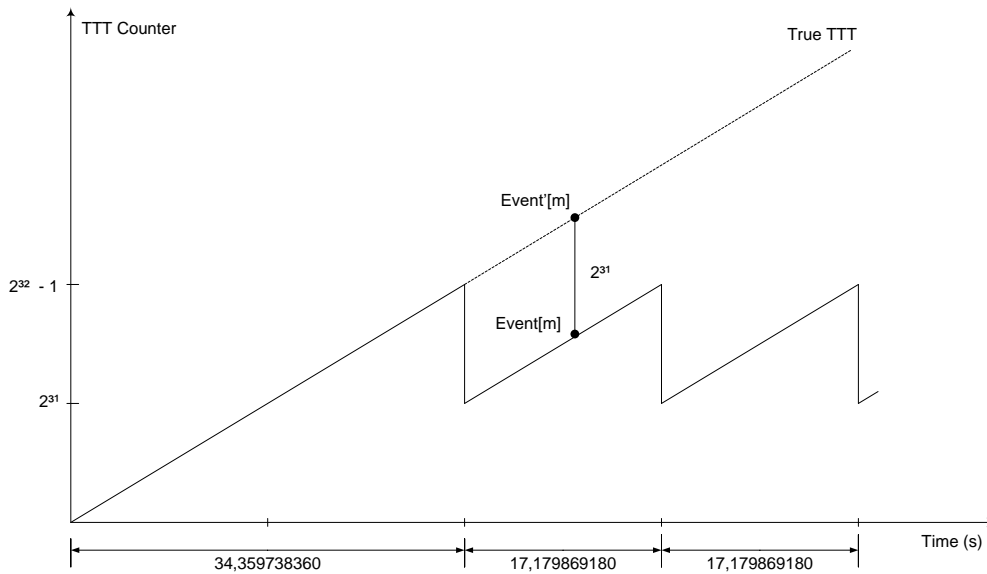
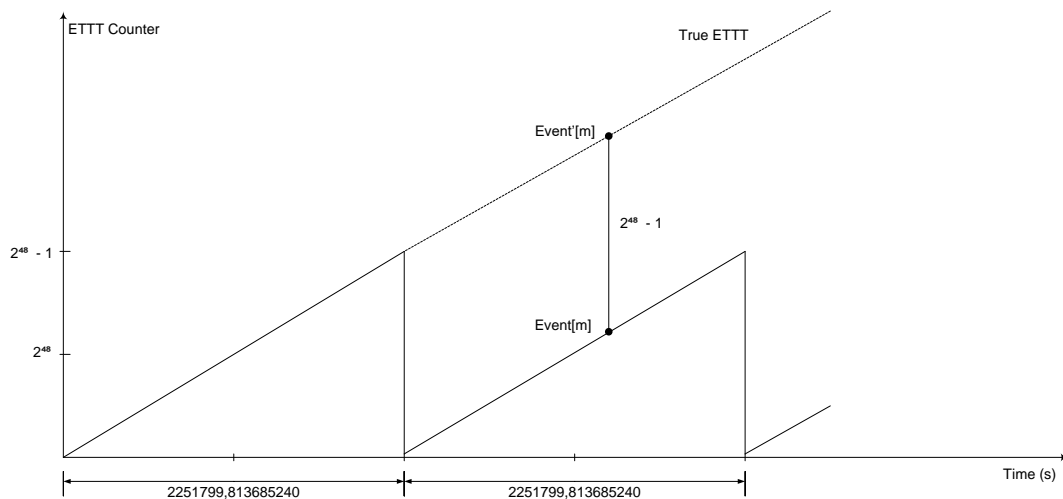

Fig. 10.8: TTT description
Fig. 10.9: ETTT description
- **TRIGGER TIME TAG** (bit[31:0] of 4th header word) is the Trigger Time Tag information (TTT), which is the trigger time reference (see Sec. 10.5.3). The word is composed of the value of the 31-bit counter of the Trigger Time Tag (bit[30:0]) plus the overflow bit (bit[31]) indicating that the timestamp counter has overflowed at least once (Fig. 10.8). If the ETTT option is enabled, then this field becomes the 32 less significant bits of the 48-bit Extended Trigger Time Tag information in addition to the 16 bits (MSB) of the TRG OPTIONS field (2nd event word). Note that, in the ETTT case, the overflow bit is no more provided (Fig. 10.9). The trigger time tag is reset either after each start of acquisition or via front panel signal on GPI connector and increments at the frequency of 125 MHz (8ns). The trigger time tag value is then read at half this frequency (62.5 MHz), so the Trigger Time Tag specifications result in 16 ns resolution and 17 s range (i.e. $8 \text{ ns} \cdot (2^{31}-1)$), which can be extended to 625 h (i.e. $8 \text{ ns} \cdot (2^{48}-1)$) by the Extended Trigger Time Tag option.